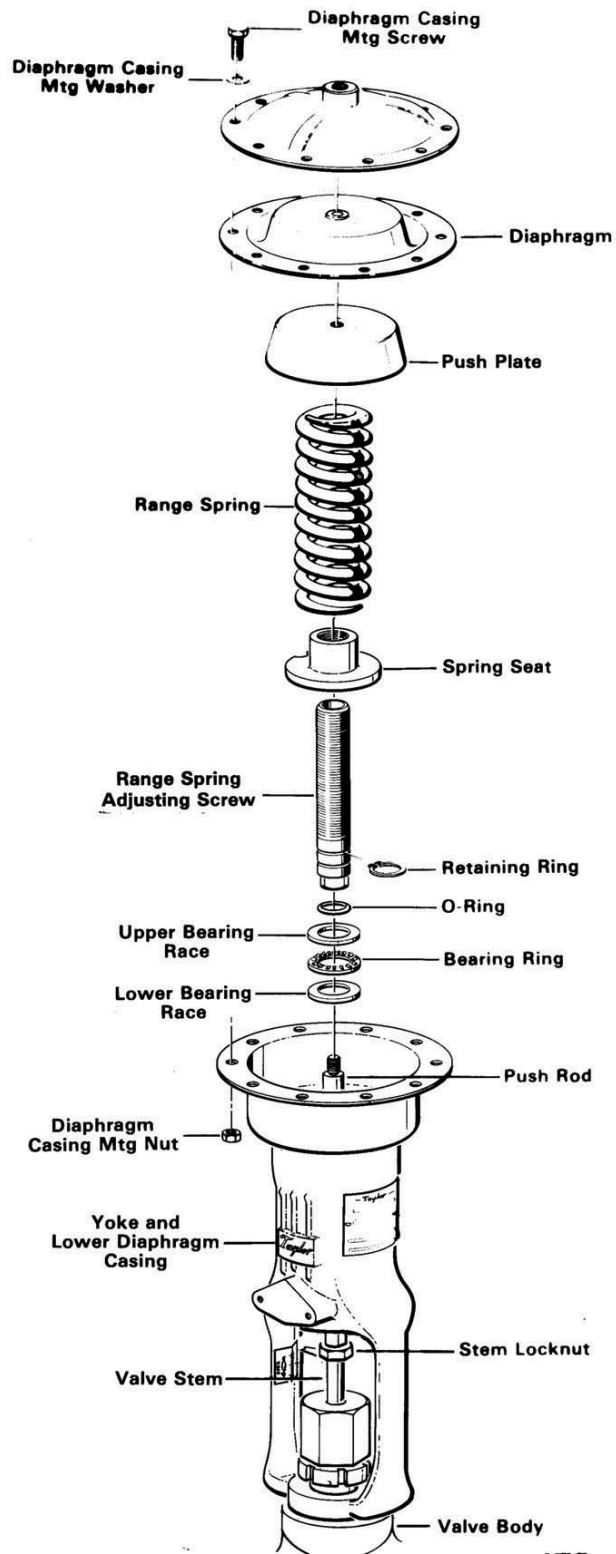

Figure 8. Disassembly of Air-to-Lower Actuator
4. Loosen and remove all diaphragm casing mounting bolts, nuts and washer, Figure 8.